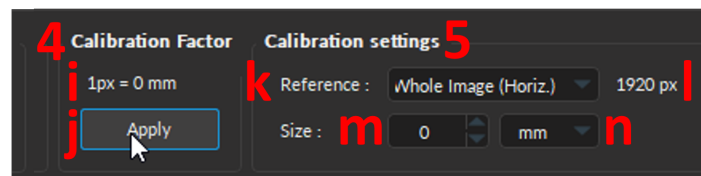

Figure 7.7: Camera Module - Calibration
- j) The **Calibrate** button opens the hidden **Calibration Settings** box (Fig. 7.7, 5) which are required to calculate a new **Calibration Factor**. The image calibration can only be done once the **Live / Record** mode is started and stopped. Note that once the **Calibrate** button is selected, it turns into the **Apply** button (Fig. 7.7, j).
5. The **Calibration Settings** contain the parameters required to calculate the **Calibration Factor**. Once updated, the new **Calibration Factor** will be displayed above the **Apply** button (Fig. 7.7, i).
- k) The **Reference** drop-down list (Fig. 7.7, k) offers three options of elements of the image to use as a reference when calculating **Calibration Factor**.
- l) The **Current Reference Dimensions** (in pixels) is displayed to the right of the drop-down list (Fig. 7.7, l - 1920px).
- m) The **Size** text-box (Fig. 7.7, m & n) specify the real dimensions of the reference and its unit (mm, cm, or inches). Select the **Apply** button (Fig. 7.7, j) to recalculate the **Calibration Factor** using the new **Size**.